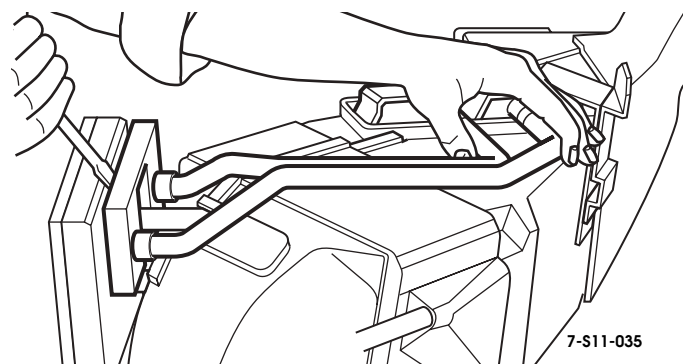

Figure 11-71: Removing Heater Core
7. Pry heater tube mounting plate away from passthrough plate. Pry only in the middle to prevent damaging seal surfaces. Heater tubes extend past the mounting plate and into the passthrough plate (Figure 11-71).